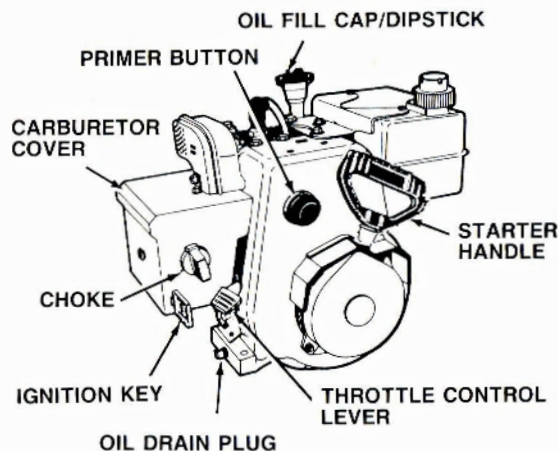

FIGURE 10
The snowblower engine is equipped with a recoil starter. The speed of this engine is controlled by the throttle control lever (Figure 10). Before starting engine, be certain that you have read and followed all instructions on the preceding pages.
(See figure 10 on page 7).
2. Move throttle control (UP) to **"FAST"** position. Insert key into ignition slot. Be sure it snaps into place (Figure 10). **Do not turn key.**
4. Push primer button (Figure 10) 2 times. **NOTE:** Do not prime a warm engine. (See **warm Engine Start.**)
5. Pull starter handle (Figure 10) rapidly. **NOTE:** Do not allow handle to snap back, but allow it to rewind slowly while keeping a firm hold on the starter handle.
2. Move throttle control (UP) to **"FAST"** position. Insert key into ignition slot. Be sure it snaps into place. (Figure 10). **Do not turn key.**
4. Pull starter handle (Figure 10) rapidly. **NOTE:** Do not allow handle to snap back, but allow it to rewind slowly while keeping a firm hold on the starter handle.
2. With engine not running wipe all snow and moisture from carburetor cover (Figure 10) in area of control levers. Also move control levers backward and forward several times.